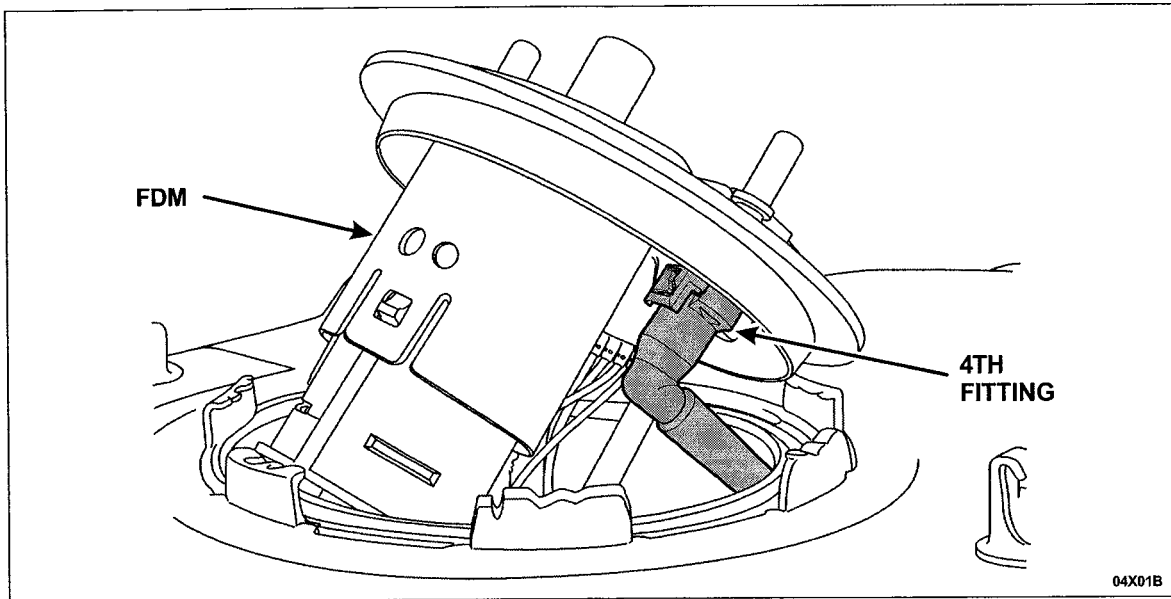
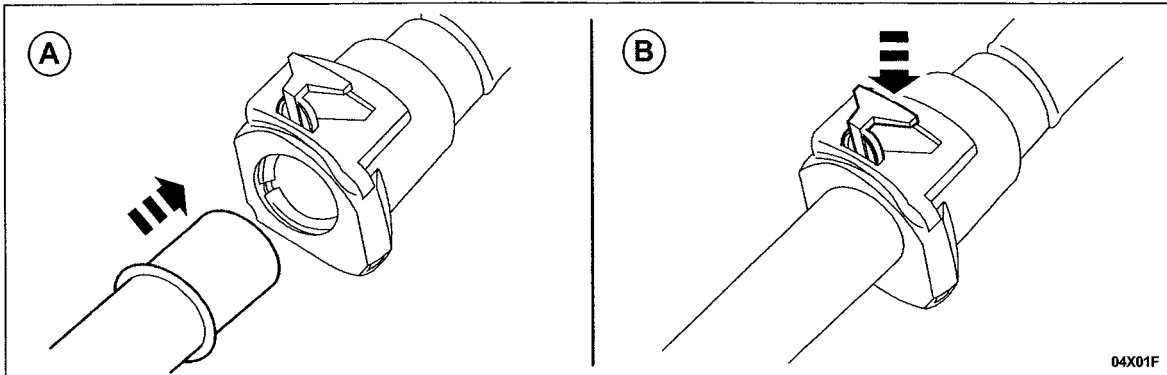

FIGURE 2
FIGURE 6
1. Remove the fuel delivery module (FDM) following the Workshop Repair Manual. Refer to the Fuel Tube Quick Connect Fitting instructions in this Attachment III. Be aware of a fourth fitting inside the fuel tank that connects to the underside of the FDM upper plate. See Figure 2.
1. Position the fuel and vapor tubes in place and snap them into the four (4) retainer clips.
3. Install the FDM O-ring, then position the FDM and connect the internal fuel tube. See Figure 2. After the tube is connected to the port, squeeze the locking tab in to fully engage the lock mechanism. See Figure 6. Then, tug on the tube to make sure the fitting is fully seated.
2. To reconnect: See Figure 6.